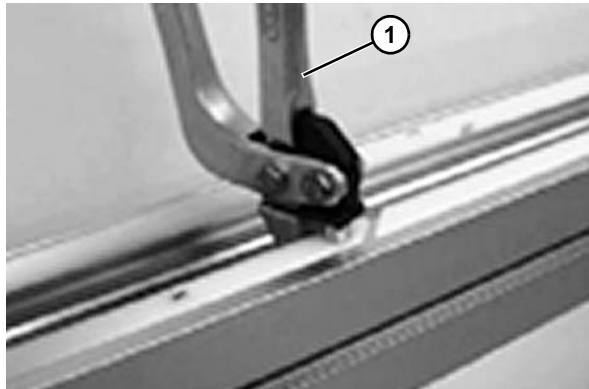

Figure 44
2. Clamp the aluminum rivet by using crimping pliers (**Figure 44, item 1**).